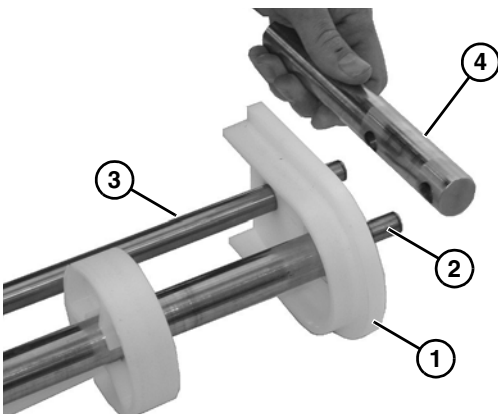

Figure 71
3. Install the pinch guard (Figure 71, item 1) to each side onto idler shaft (Figure 71, item 2) and pinch guard shaft (Figure 71, item 3).
4. Install the bearing end rod (Figure 71, item 4) onto idler shaft (Figure 71, item 2) and rod (Figure 71, item 3).